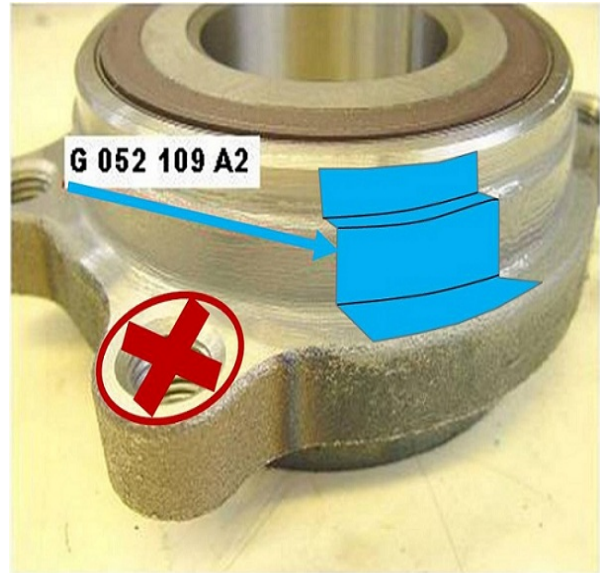

Figure 1. Area to apply the paste.
- Using a brush, apply a thin coat of paste part number G 052109A2, using about .21 ounces or 6 grams (roughly 1/20) from the tube on the wheel bearing housing as shown (Figure 1). Make sure not to apply any paste on the threads.